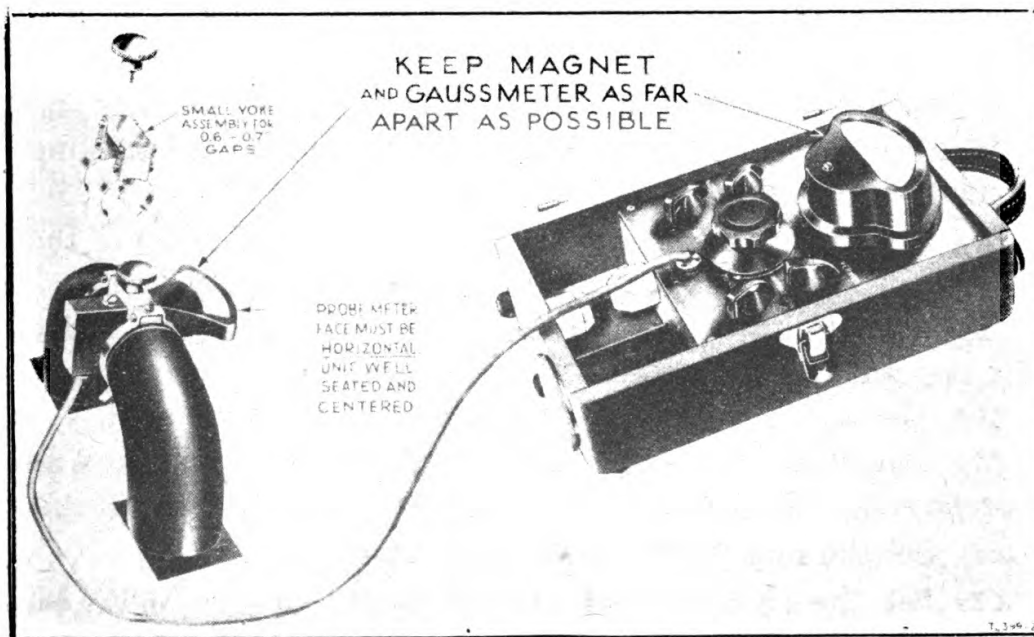

Figure 30. Use of Fluxmeter TS-15A/AP.
### 30. FLUXMETER TS-15A/AP (fig. 30).
(5) Turn the instrument on by rotating the OFF-MEASURE control and continue turning this control in a clockwise direction until the gauss meter pointer is aligned with the mark at 48 on the C scale.
(6) Turn the NORMAL-ZERO SET switch and hold it to the ZERO SET position. The gauss meter pointer should be aligned with the mark at 96 on the C scale.
(7) If the gauss meter pointer is not aligned with the mark at 96 on the C scale, note the position of the pointer in respect to the mark at 96. Then, turn the zero-adjusting screw on the front of the gauss meter to displace the pointer an equal amount on the opposite side of the 96 mark.
(8) Release the NORMAL-ZERO SET switch and readjust the OFF-MEASURE control to return the meter pointer to the mark at 48 on the C scale.
(9) Repeat steps (6) and (7) above until the gauss meter pointer is aligned with marks 48 and 96 on the C scale for the two positions of the NORMAL-ZERO SET switch.
**b. Operation (fig 30).** Instructions for measuring the flux density of the oscillator field magnet are given below:
(1) Open the modulator and remove the transmitting oscillator. See TM 11-1524, paragraph 917.
(2) Remove the field magnet from the modulator case and set it upright on two blocks on the work bench. Avoid striking or turning the spacing adjustment knob.
(3) Attach the large mounting yoke to the probe meter of the fluxmeter and fasten it with the nickel-plated mounting bolt.
(4) With the OFF-MEASURE control in the OFF position insert the probe unit between the pole faces of the magnet; be sure that the unit is well seated, well centered, and horizontal.
(5) Place the fluxmeter cabinet as far from the magnet as the probe cable will permit.
(6) Set the range selector switch on A.
(7) Set the NORMAL-REVERSE switch to the NORMAL position.
(8) Turn the instrument on and rotate the OFF-MEASURE